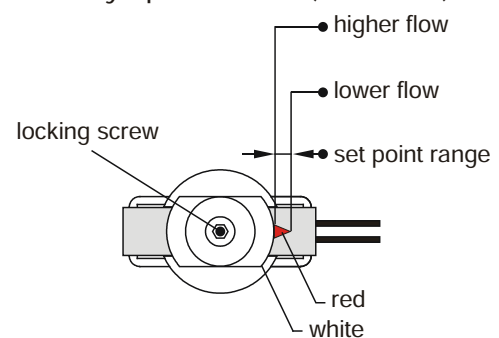
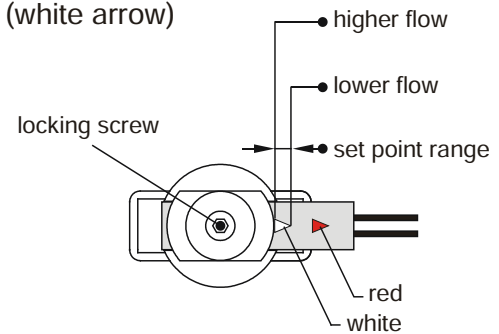

Fig. 18
Fig. 19
- ✚ Subsequently loosen the locking screw (2.5 hexagon socket screw for the brass and stainless steel version or recessed head screw for the plastic version) and position the switching unit until the red or white arrow are visible at the entry of the switching contact guide for a desired make contact (→ Fig. 18) or break contact (→ Fig. 19) respectively.